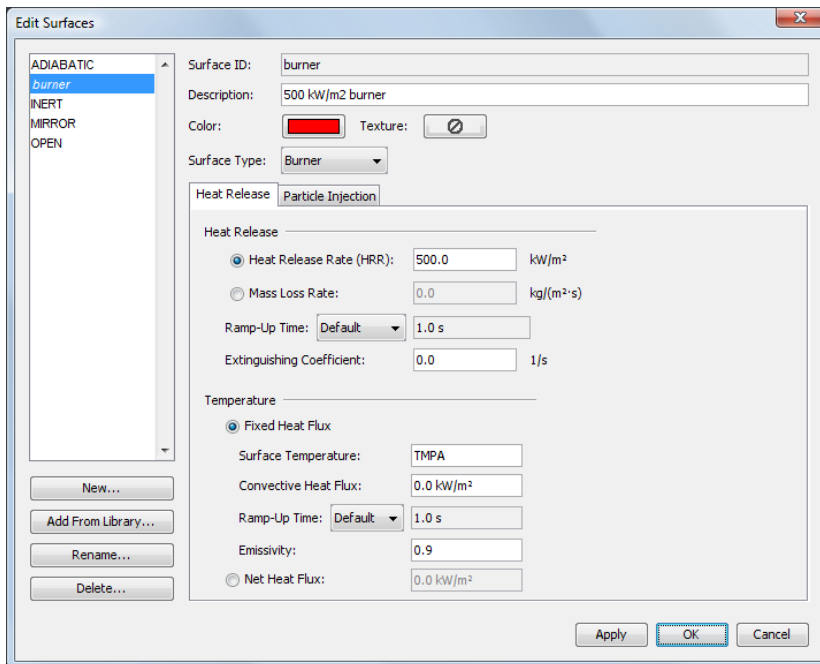

Figure 2.4. Defining parameters for the burner surface
1. In the **Description** box, type 500 kW/m^2 burner, Figure 2.4.